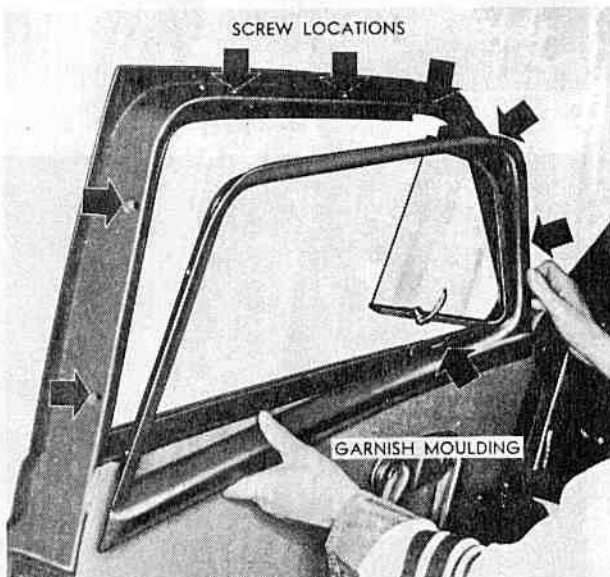

FIG. 8
**DOOR WINDOW GARNISH MOULDING AND VENTILATOR ASSEMBLY** Remove the Phillips head screws which hold the garnish moulding to the door (be sure to remove the screw which is hidden by the ventilator wing). Then remove the garnish moulding and the ventilator assembly from the door (see Fig. 8).